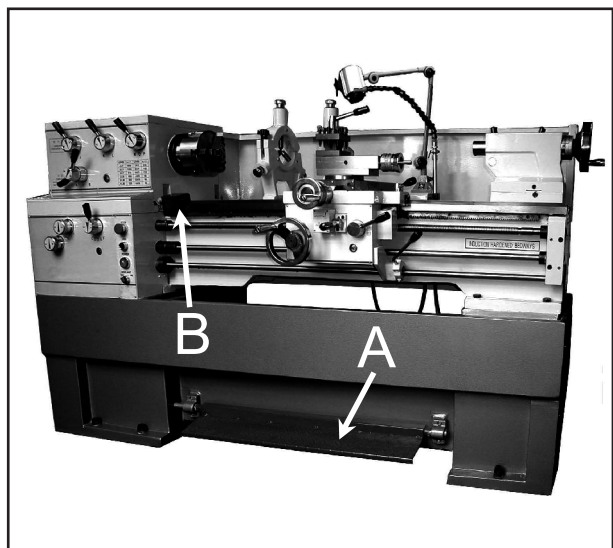

Fig. 16
20. Foot Brake (A, Fig. 16) - located between stand pedestals. Depress to stop all lathe functions.
21. Micro Carriage Stop (B, Fig. 16) - located on the lathe bed. Loosen two hex socket cap screws underneath body and slide along bed to desired position. Tighten screws to hold in place.